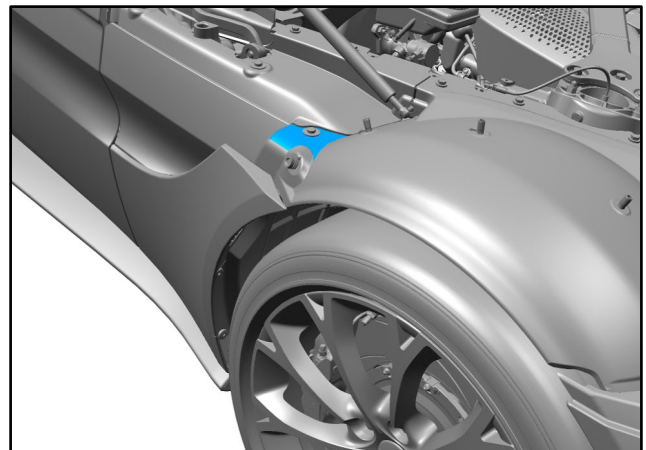

Figure 2
4. Use adhesive tape to attach the template to the headlamp mounting panel in the position shown (refer to Figure 2 and Figure 3).